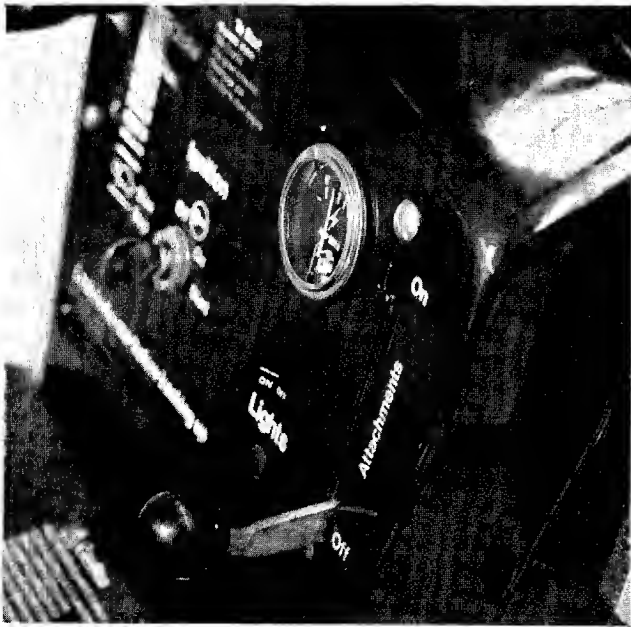

FIGURE 14.
The PTO engagement lever is located on the right side of the dashboard. It is used to engage the blades on the cutting deck or snow thrower attachments. To turn on the attachment, lift the lever slowly and lock it in the notch. To turn off the attachment, remove the lever from the notch and lower it to the off position. (See figure 14.)
1. Place the PTO lever in the disengaged position (down). (See figure 14.)